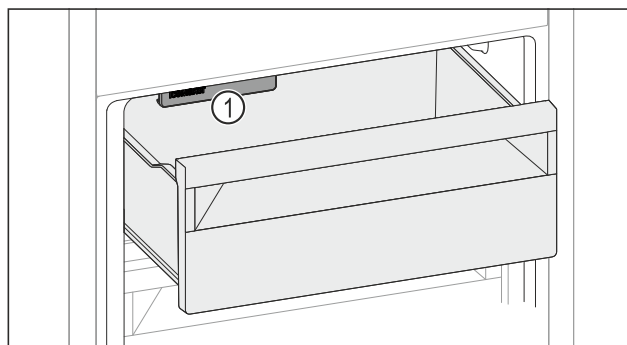

Fig. 158
- Pay attention to the IceMaker Fig. 158 (1).